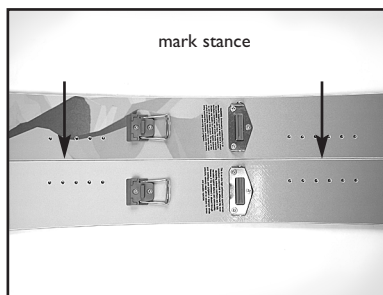

FIGURE 3
1.) With the interlocking hooks on tip and tail tight, mark where you want your stance on the board. (See Figure 3)